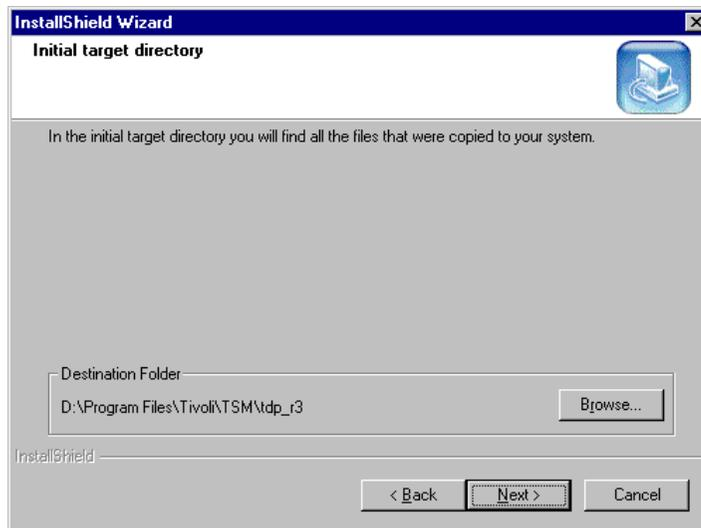

Figure 70. Choose destination folder
6. Choose the destination folder, as shown in Figure 70, for all the TDP files (copy of the executables, sample scripts, documentation)